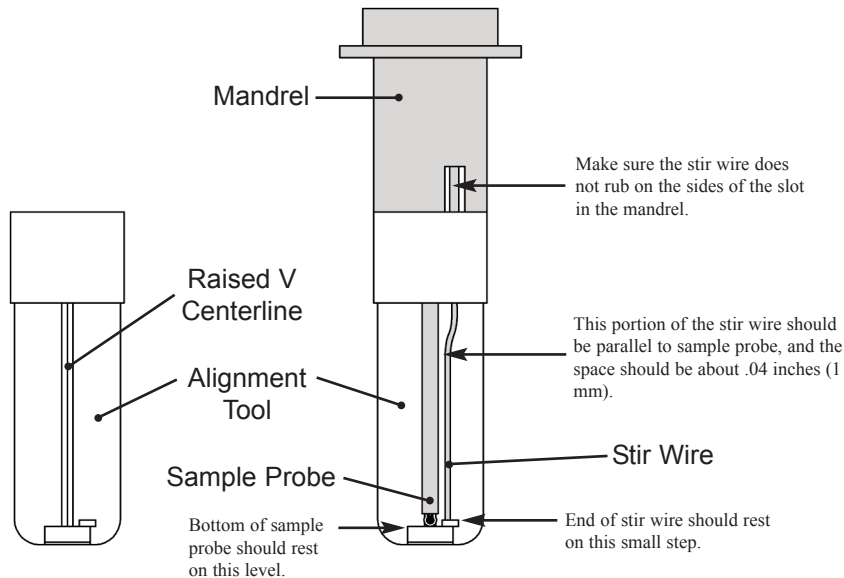

Figure 9: Probe and Stir/Freeze Wire Alignment
Probe and stir/freeze wire alignment using the alignment tool (see Figure 9):
1. Slide the tool squarely up onto the mandrel, round end first, with the stir/freeze wire located as shown in Figure 9.
3. With the alignment tool squarely up on the mandrel, the bottom of the probe should rest on the main level, as shown in Figure 9. If vertical adjustment is necessary, first loosen the probe setscrew. Then raise or lower the probe within its mandrel as necessary, and then retighten the probe setscrew gently (overtightening will crack or distort the thin plastic wall of the mandrel). Recheck the probe position.
4. The bottom of the stir/freeze wire should be even with the small step, as shown in Figure 9. As necessary, remove the head cover, loosen the stir/freeze wire setscrew(s) and reset the stir/freeze wire. Retighten the stir/freeze wire setscrew(s). Then bend the wire, if